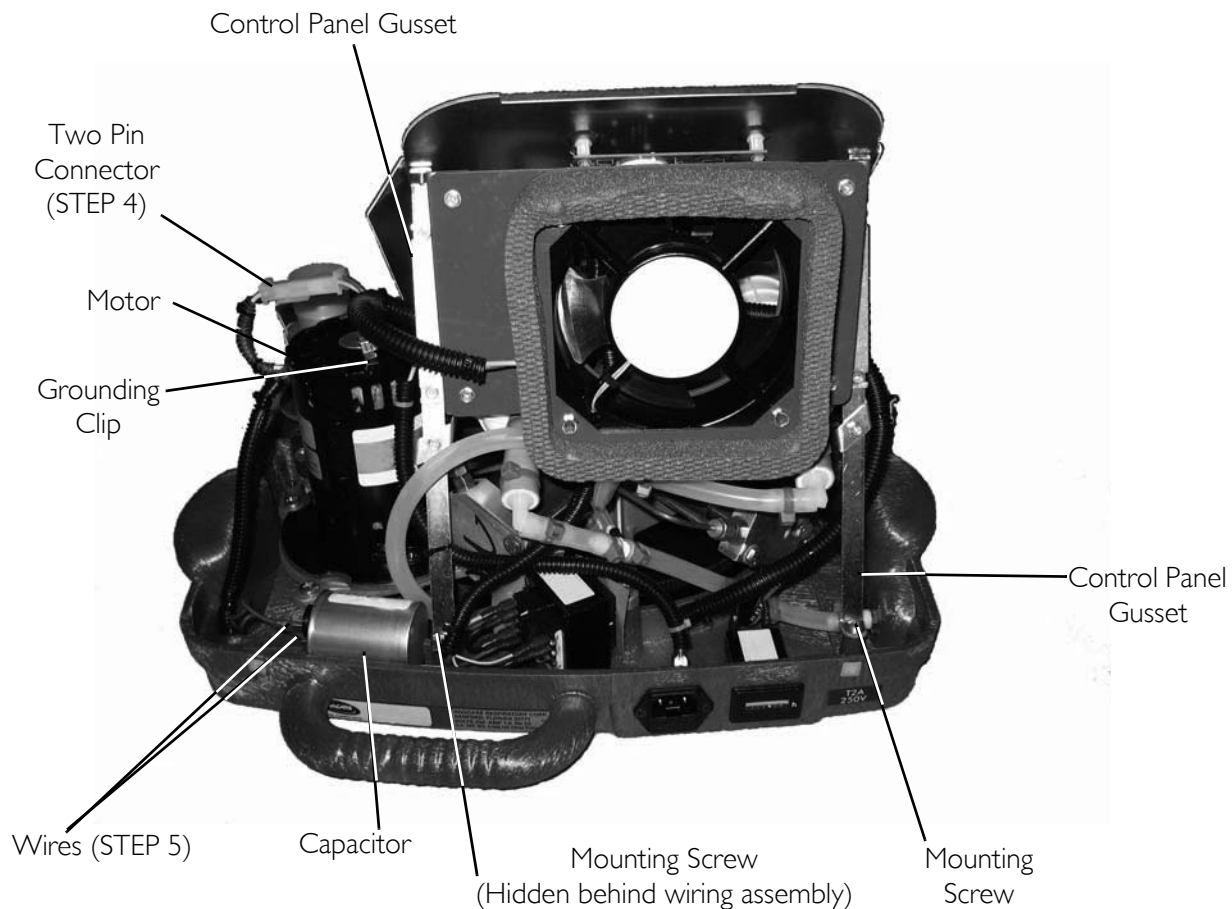
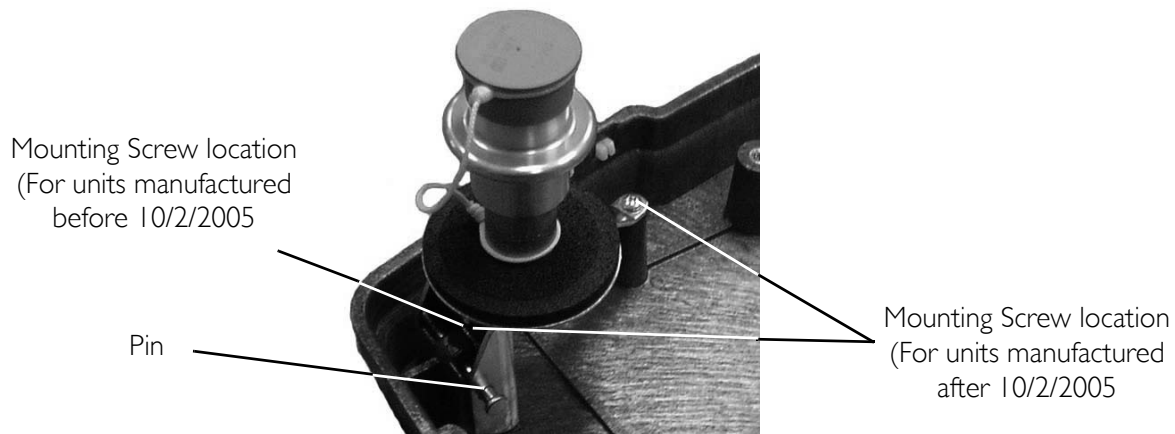

FIGURE 8.1 Base Replacement
FIGURE 8.7 Base Replacement
NOTE: For this procedure, refer to FIGURE 8.1 through FIGURE 8.7.
5. Disconnect the two pin connector that connects the motor to the wiring harness (FIGURE 8.1).
6. Using needle nose pliers, disconnect the two wires from the capacitor (FIGURE 8.1).
7. Using needle nose pliers, disconnect the grounding clip from the motor (FIGURE 8.1).
11. Remove the two screws that secure the control panel gussets to the rear of the base assembly (FIGURE 8.1).
34. Perform one of the following (FIGURE 8.7):
1. Perform one of the following (FIGURE 8.7):
18. Secure the control panel gussets to the rear of the base assembly with two mounting screws (FIGURE 8.1).
22. Connect the grounding clip to the motor (FIGURE 8.1)
23. Connect the two wires to the capacitor (FIGURE 8.1)
24. Connect the two pin connector that connects the motor to the wiring harness (FIGURE 8.1).